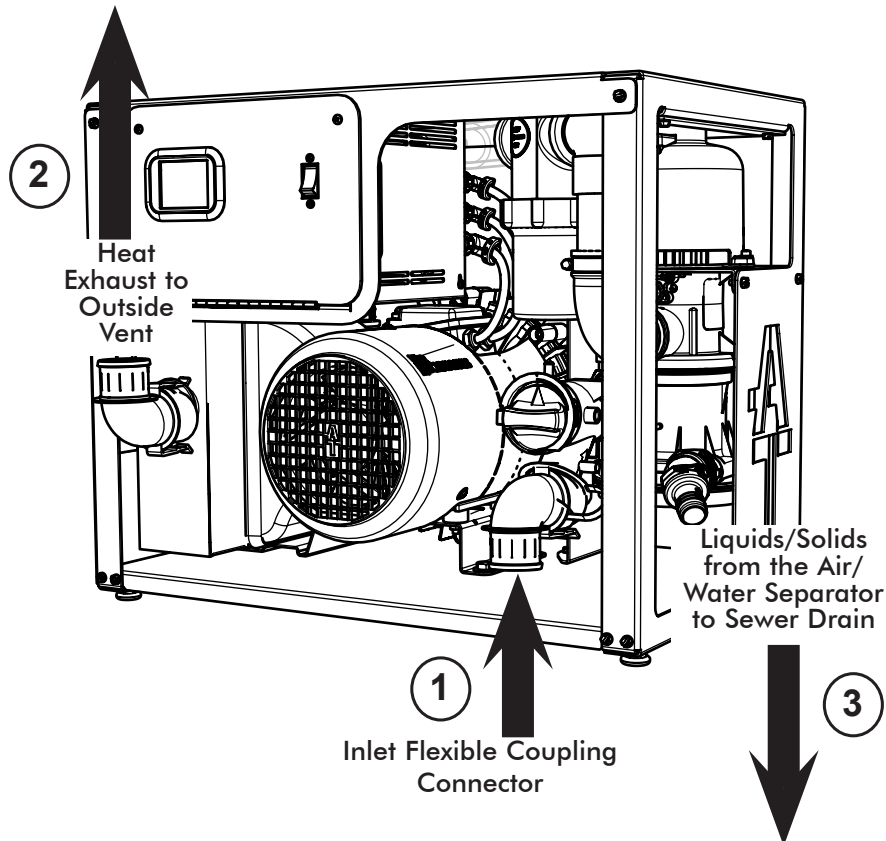
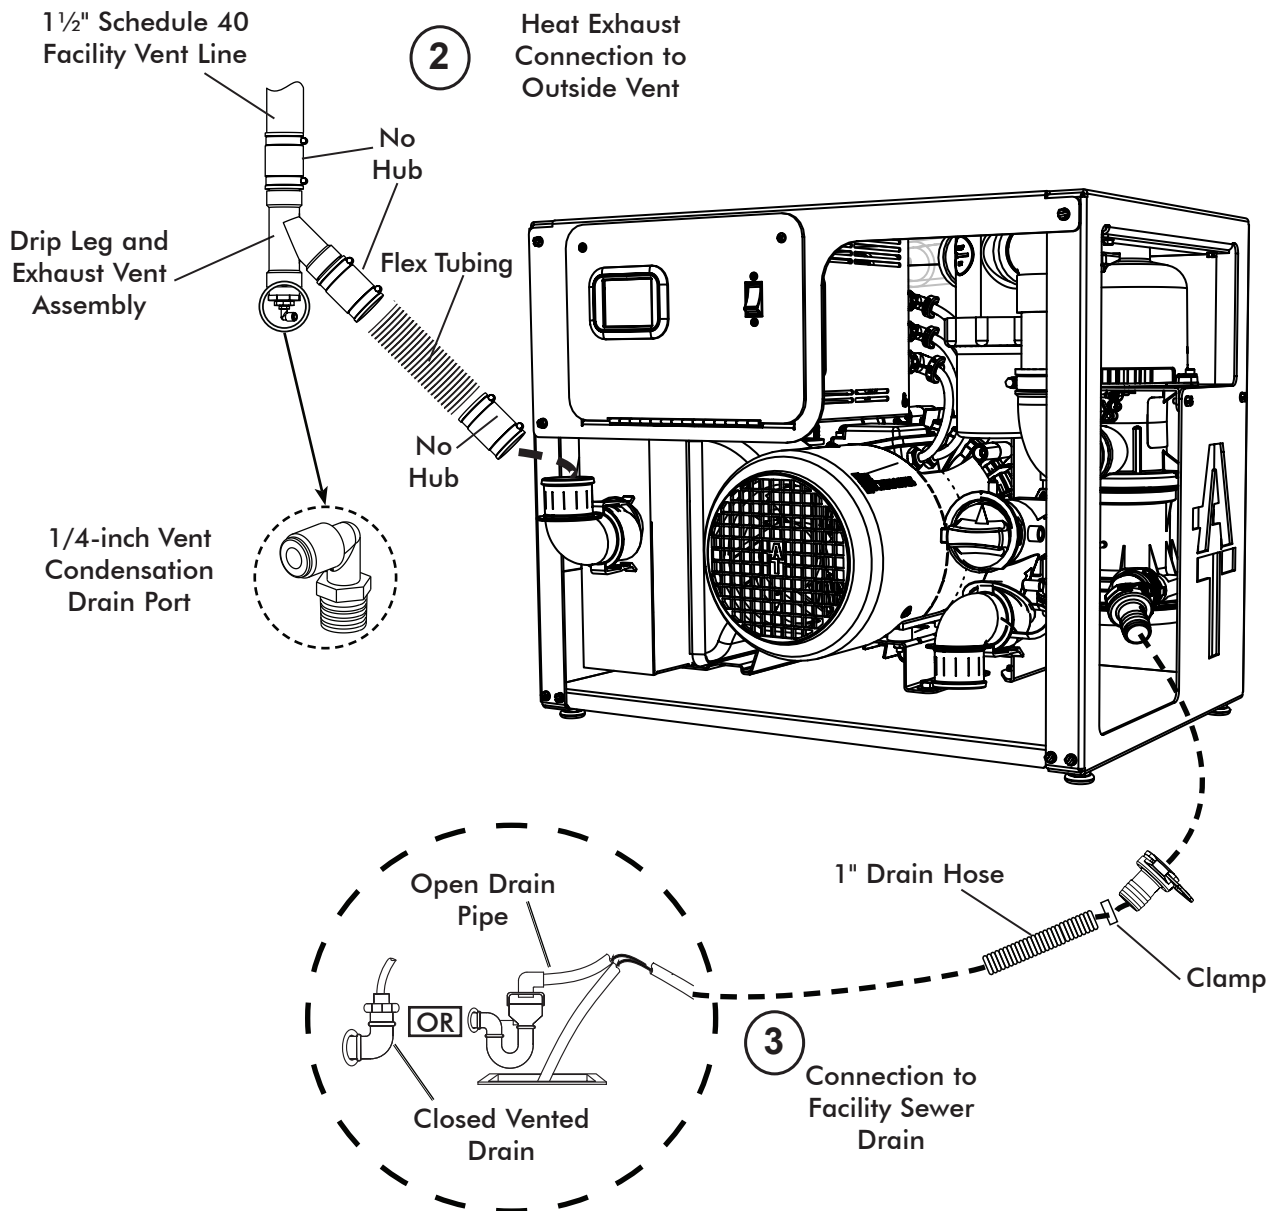

Figure 5. MOJAVE LT3 Plumbing Connection
Figure 6. MOJAVE LT3 Detail Plumbing Connection
Installation Layout Space. Figure 4 shows the requirements for the installation of MOJAVE LT3. Please note that all units are shipped with leveling feet set to lowest position. Heights can be increased by 1 inch by adjusting the leveling feet. Refer to Figures 5 and 6 for connection details.
- B. **SEWER DRAIN** - Provide a drain for the removal of waste liquids from the Air/Water Separator assembly. Use an open drain pipe (1 ½ inch P-Trap with 1 inch air gap or floor sink) or a closed vented drain. See Figure 6.
MOJAVE LT3 Connection Procedure. Using industry standard techniques, make the three connections between the LT3 with supplied components from accessory kits Refer to Figure 5 for the connection diagram and perform the following procedure.
1. **Treatment Room Suction Line to Pump Inlet Connection.** Refer to Figure 5, item (1) .
2. **Heat Exhaust Connection.** Refer to Figure 5, item (2) for the location of the vent hose connection at the pump heat exchanger output and the facility vent line. Make the heat exhaust connection by performing the following procedure.
- a. **Exhaust Vent Assembly Installation.** Refer to Figure 6 and install the Drip Leg and Exhaust Vent Assembly to the bottom end of the facility vent line. Install a length of 1/4 inch OD Urethane Tubing (P/N 51453) between the vent condensation drain port and facility sewer drain.
- b. **Heat Exhaust Vent Connection.** As shown by Figure 6, connect the vent hose between the pump heat exchanger output and the facility vent line. Secure with no hub adapters provided by the accessory kit.
3. **Drain to Facility Sewer Connection.** Refer to Figure 5, item (3) for the location of the Air/Waster Separator drain. Use the 1-inch hose provided to connect the separator drain to the facility sewer. As shown by Figure 6, the sewer connection can be made as either a closed vented drain or open drain pipe method.